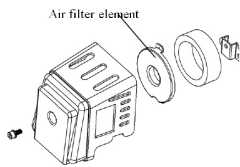

Fig.15
- Clean the air filter element. (Fig.15)